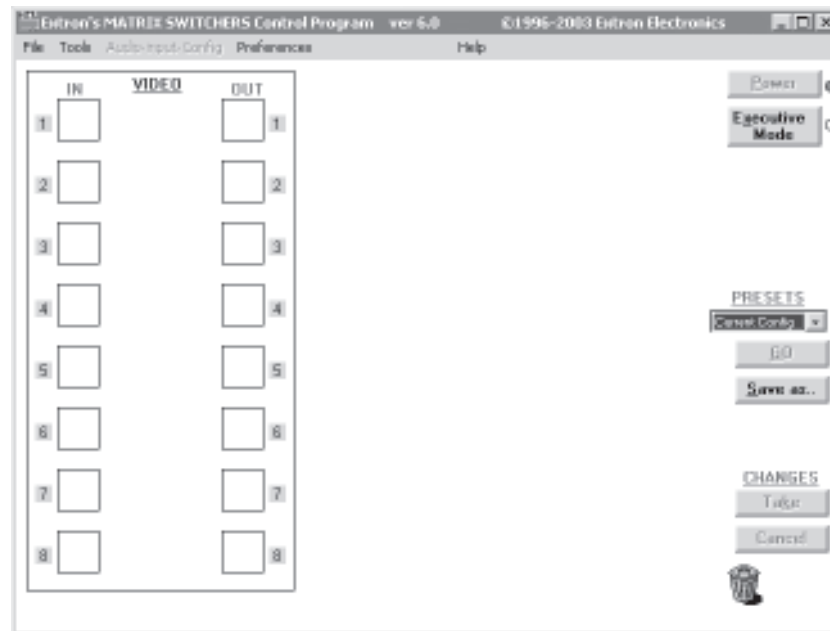
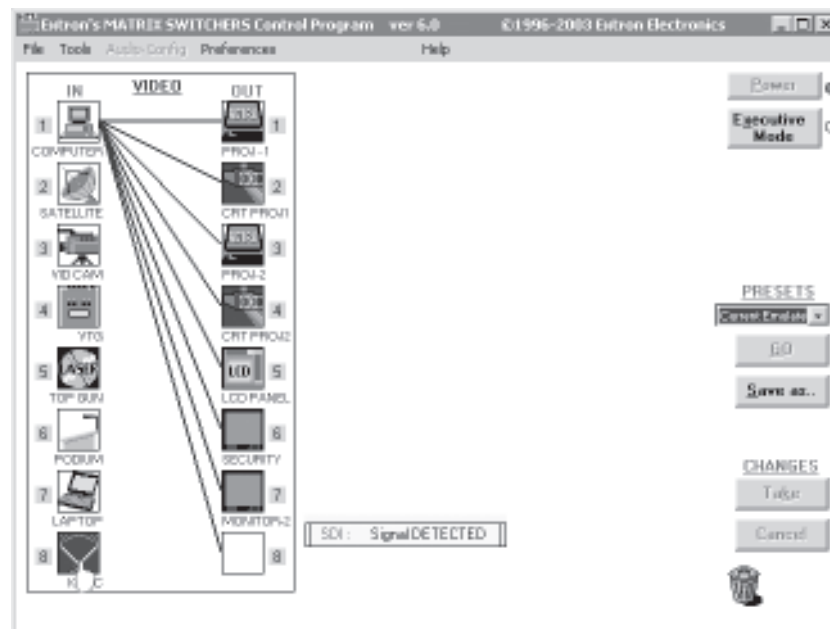

Figure 5-4 — Extron Matrix Switchers Control Program window (blank)
Figure 5-5 — Sample program window showing ties and icons
3. The Matrix Switchers Control Program window appears (figure 5-4 and figure 5-5) displaying the current configuration of the connected switcher.
- For quick display of information on a specific input or output, position the cursor over that device in the control program window. The program opens a window that details the connections to that device. See the inset box in figure 5-5.
Frequency read options — Allows you to set the input signal detection feature as follows (see the inset box in figure 5-5):
Icons in I/O boxes — Erases any numbers in the I/O boxes in the control program window (figure 5-4). You can place icons in the boxes.